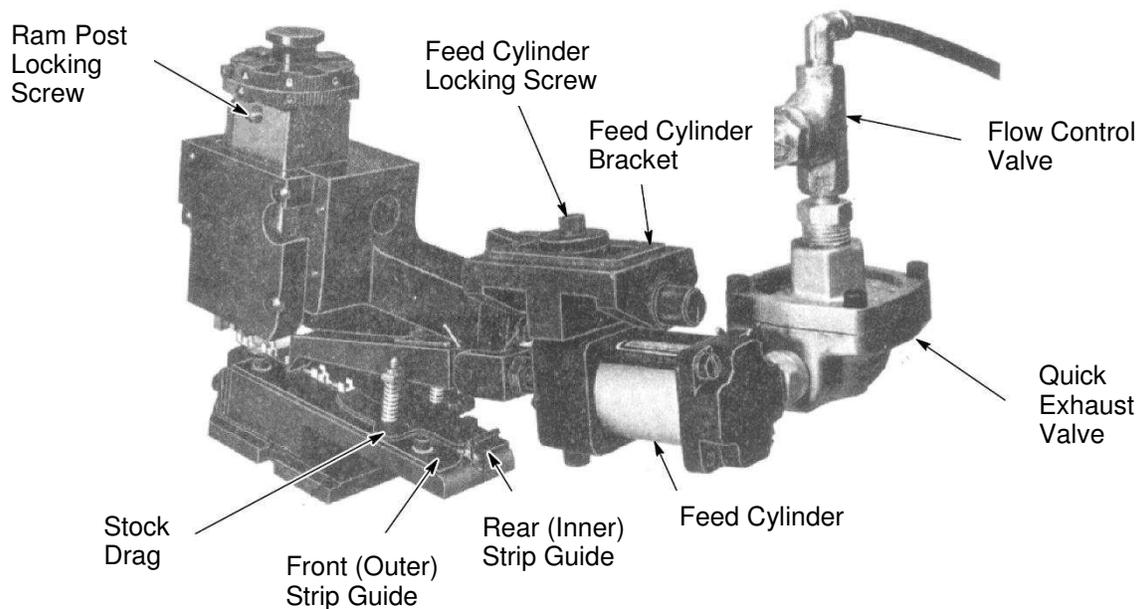
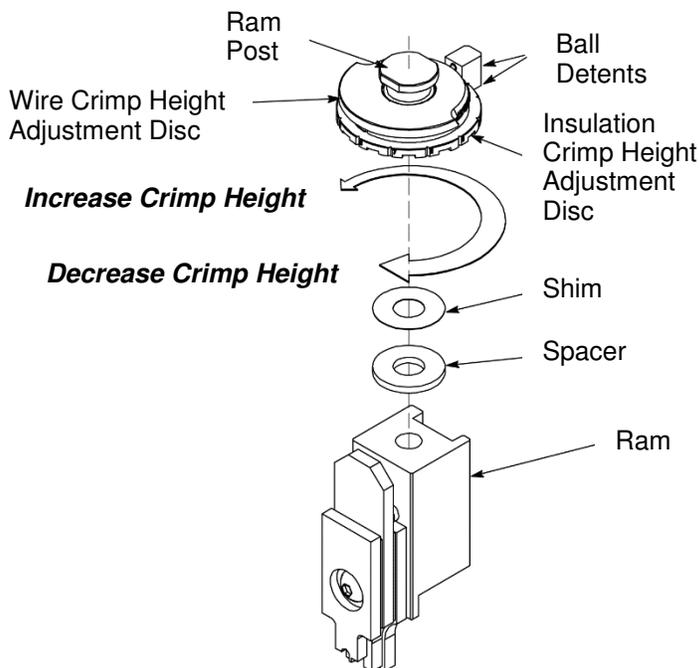

Figure 5
Figure 7
- (1) Slightly loosen the feed cylinder locking screw on top of feed cylinder bracket (see Figure 5).
- (2) Turn on-off valve to the "off" position (AMP-O-LECTRIC machine), or disconnect air supply to feed cylinder (automatic equipment). Feed finger should retract.
- (3) Turn feed adjustment screw CLOCKWISE to RETRACT forward limit or COUNTERCLOCKWISE to EXTEND forward limit of stroke.
- (4) Retighten feed cylinder locking screw, turn on-off valve to "on" position (AMP-O-LECTRIC machine) or reconnect air supply to feed cylinder (automatic equipment).
Fine Adjust Assembly PN 879103-[ ] is factory installed and should require no further adjustment. If the assembly must be removed from the ram, be sure to loosen ram post locking set screw (reference Figure 5). The ram post can then be removed. Upon re-assembly, be sure that the two ball detents on the fine adjust assembly are aligned with the centerline of the insulation crimper and oriented relative to the front of the tooling (as shown in Figure 7). Ensure that the correct spacer (as per the appropriate applicator log) is re-assembled. Be sure that the ram post and ram post locking set screw are tight before re-installing the applicator into the appropriate terminating unit.